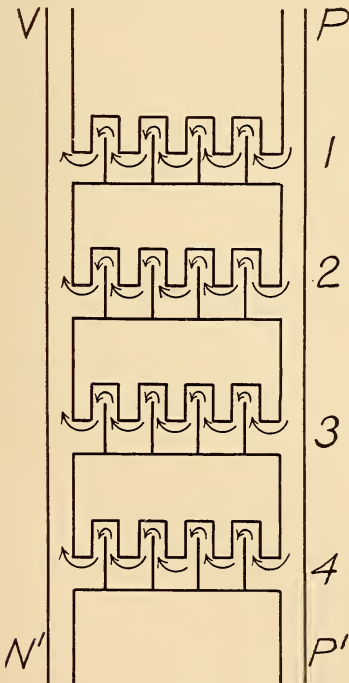

FIG. 15. STEAM RADIATOR SYSTEM IS A FORM OF PARALLEL CIRCUIT.
sively through all the radiators placed in the circuit. Or the radiator may consist of a number of pipes that are connected in multiple as represented in Fig. 15, where the steam passing through the pipe (P P'), which may be regarded as representing the positive lead or main, divides simultaneously through the radiators (1), (2), (3) and (4), which discharge the steam in equal parallel streams into the pipe (N N'), which may be regarded as representing the negative lead.